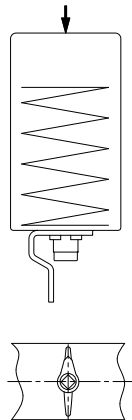

figure 1
1. NC air/spring (normally closed). The disc (03) and the position indicator (58) should be in the closed position (see figure 1).